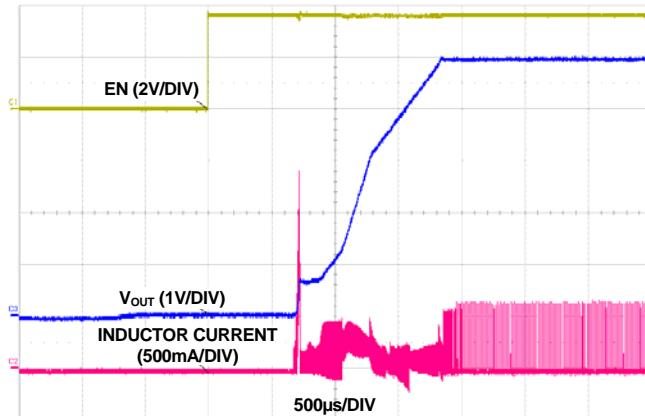

FIGURE 2. ISL91117 START-UP WITH  $V_{IN} = 3.6\text{V}$  AND  $V_{OUT} = 5\text{V}$
Refer to the following Quick Setup Guide to configure and power up the board for proper operation. During the power on process, the expected waveforms are shown in Figures 2 and 3.
7. Monitor the output voltage start-up sequence on the scope. The waveforms will look similar to that shown in Figure 2.